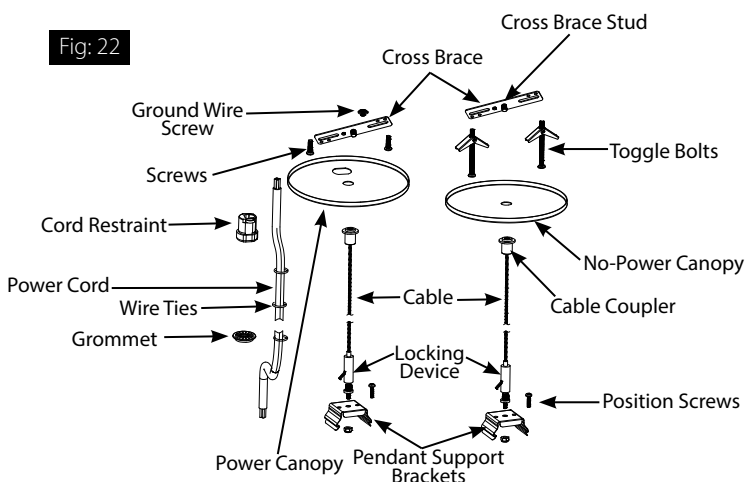

Fig: 23
2. Install **Canopy Mounting Hardware** (Fig. 22) for the power supply. Secure the **Cross Brace** to junction box (Fig. 23).